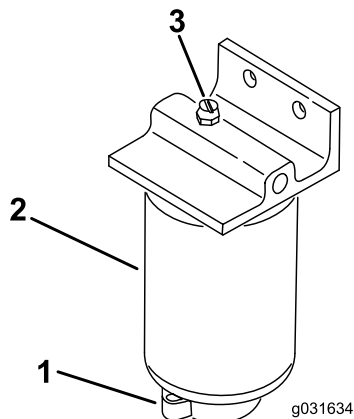

Figure 52
2. Loosen the drain valve on the bottom of the filter (Figure 52).
1. Clean the area where the filter mounts (Figure 52).